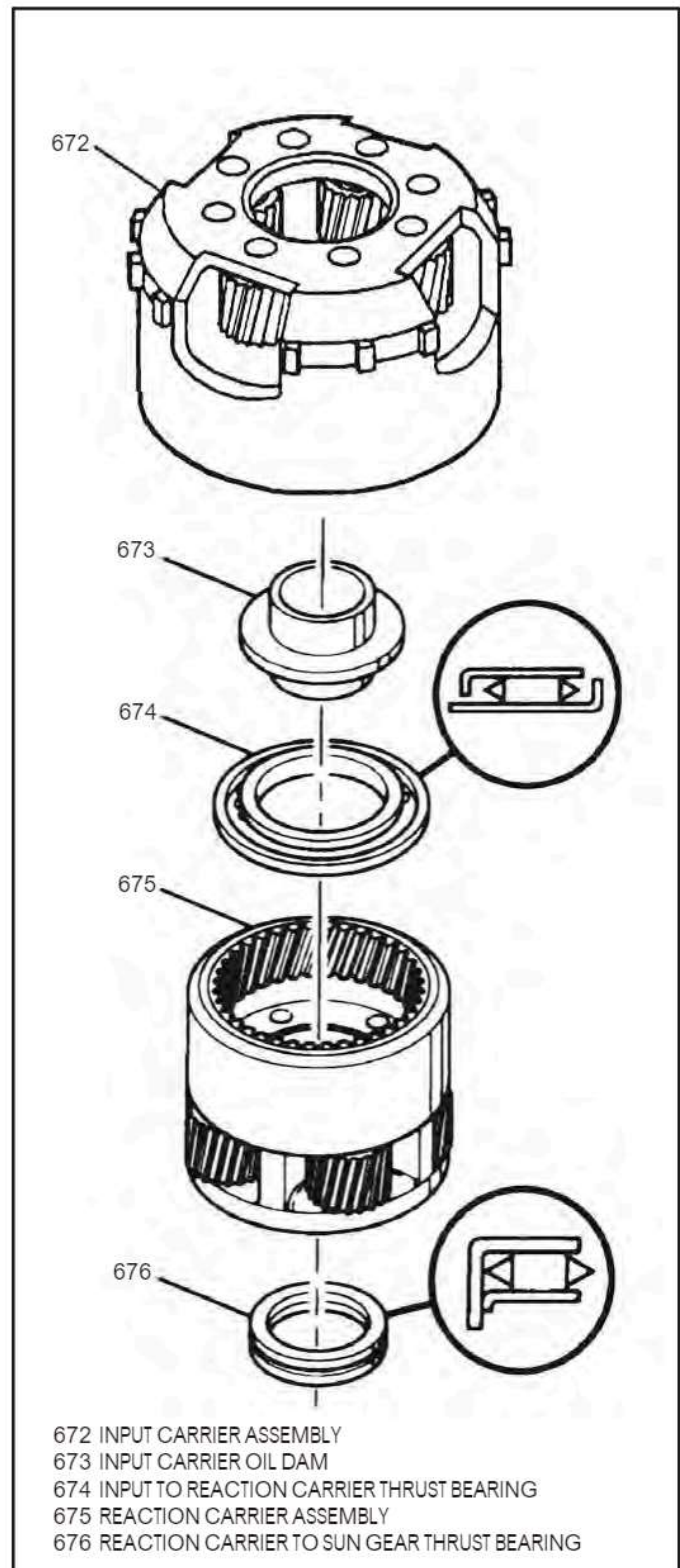

Figure 95
3. Inspect the thrust bearings for damage or wear. Refer to Figure 95.
4. Inspect the input carrier oil dam (673) for any cracks or damage (See Figure 95).
5. Install the oil dam into the input carrier, as shown in Figure 95.
6. Install thrust bearing (674) in the input carrier and retain with "Trans-Jel" (See Figure 95).